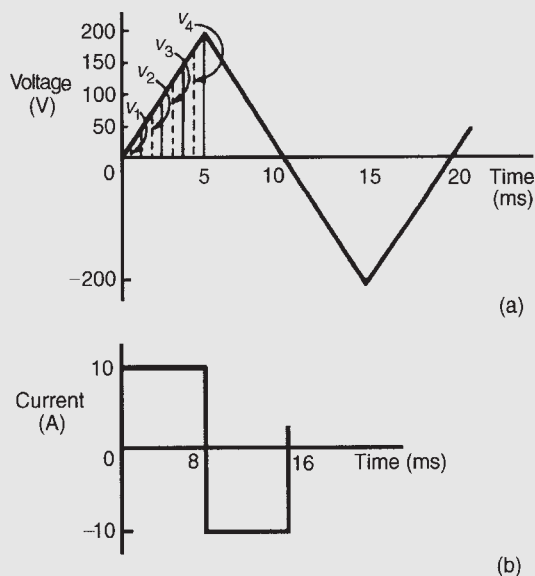

Figure 14.5
Problem 4. For the periodic waveforms shown in Fig. 14.5 determine for each: (i) frequency (ii) average value over half a cycle (iii) r.m.s. value (iv) form factor and (v) peak factor.
(a) **Triangular waveform** (Fig. 14.5(a)).
- (iii) In Fig. 14.5(a), the first $1/4$ cycle is divided into 4 intervals. Thus
(b) **Rectangular waveform** (Fig. 14.5(b)).